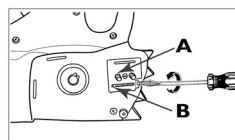

Fig. 3A
2. Using a straight screwdriver or the screw, if provided in your User's Kit, turn the chain adjustment screw (A) counterclockwise as far left as it will go, or until the Tang (B) (projecting prong) is to the end of its travel. (See Fig. 3A)
2. To remove the side cover (A), turn the knob (B) counter-clockwise. (Fig. 3A)
1. Loosen the bar retaining nuts (J) so they are hand tight. (See Fig. 3A)